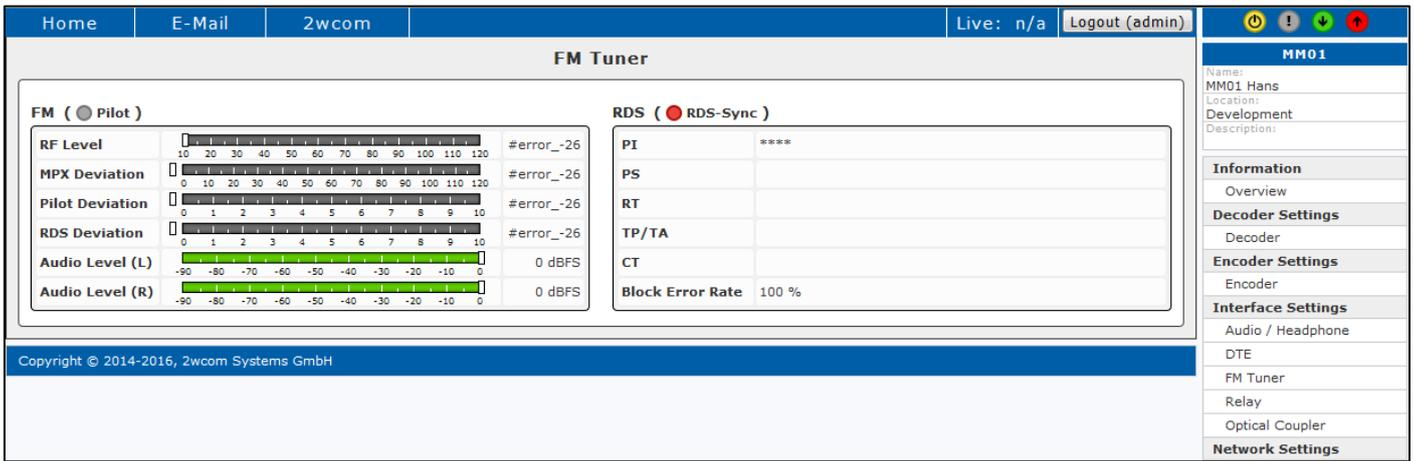

Figure 8: Status of the FM Tuner
- ⇒ Check the current settings and the audio level for FM tuner under **Status**→**FM Tuner** (see Figure 8) or on the integrated LCD monitor in the device.